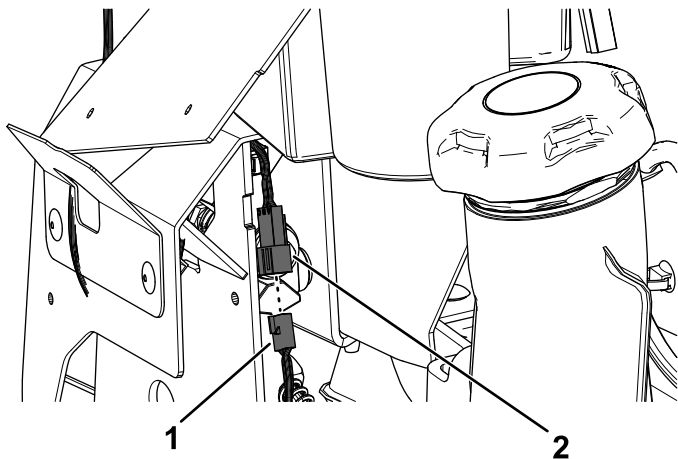

Figure 18
2. Connect the kit wire harness connector to the new left motion-control lever connector (Figure 18).